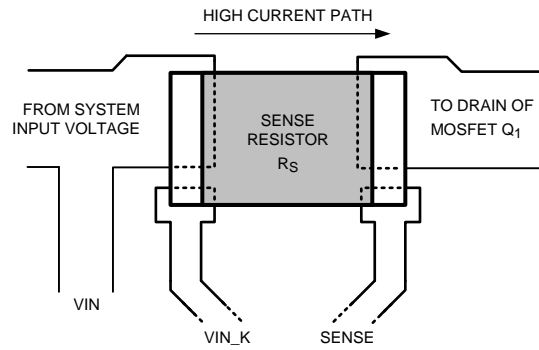

图 50. Sense Resistor Connections
5. The sense resistor (R_{SNS}) should be placed close to the LM5066. A trace should connect the VIN pad and Q_1 pad of the sense resistor to VIN_K and SENSE pins, respectively. Connect R_{SNS} using the Kelvin techniques as shown in 图 50.